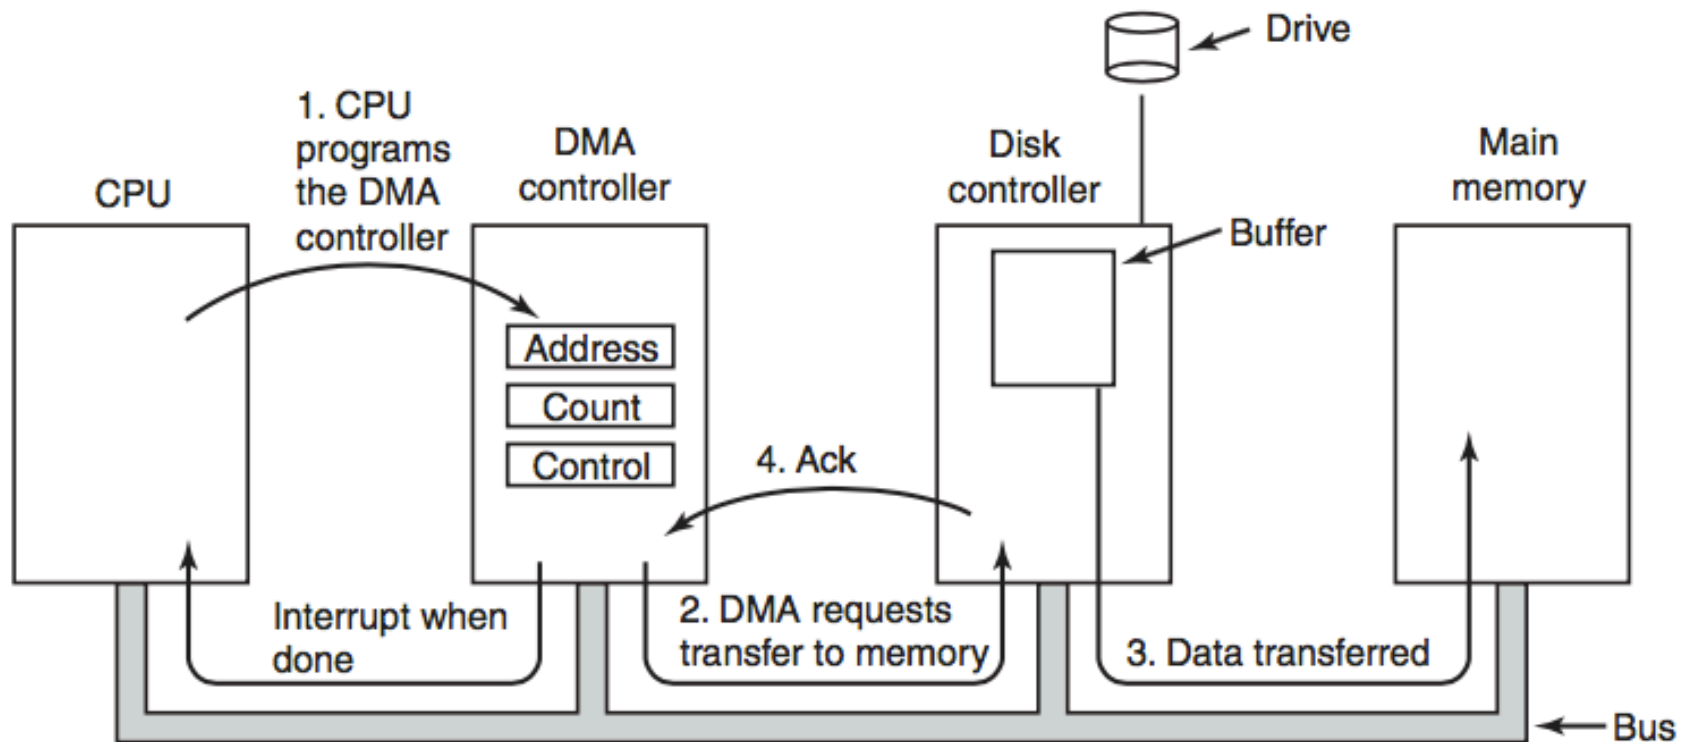

Figure 5-4. Operation of a DMA transfer
- Acquire the bus (step 2 in Figure 5-4):  $t1 + t2$